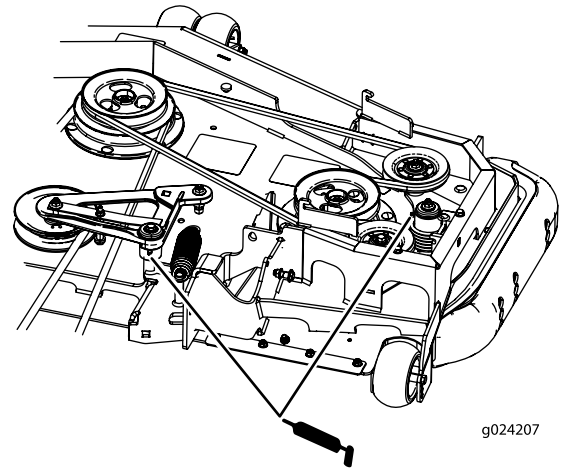

Figure 53
5. Grease the deck-belt idler arms (rear discharge machines only) as shown in Figure 53.